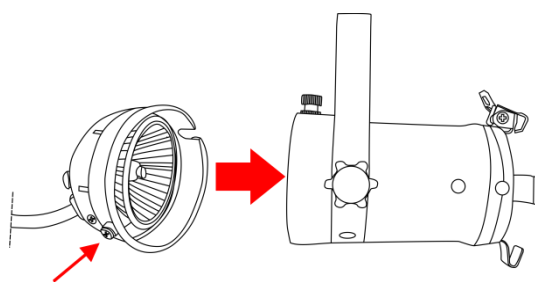

Fig. 06
- 05) Replace the rear cover of the lamp (Fig.06). Make sure that the screw at the bottom of the rear cover fits in the hole at the bottom of the front cover.